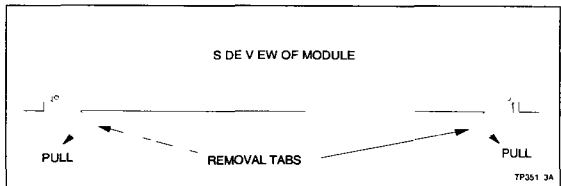

Figure 7-1 Multibus Module Removal
- 2 To unseat a module, carefully lift the card removal tabs shown in Figure 7-1.
6. Insert the multibus modules into the upper and lower guide rails. Carefully slide the module in until the front panel is flush with the top and bottom of the multibus card cage frame. Press on the module removal tabs shown in Figure 7-1 to fully insert the module into the multibus card cage backplane.